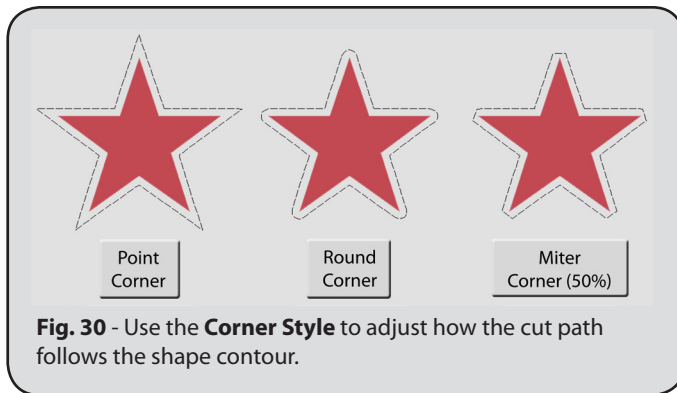

Fig. 30 - Use the **Corner Style** to adjust how the cut path follows the shape contour.
5. Set the **Corner Style** according to how rounded or sharp the cut paths should be (Fig. 30).